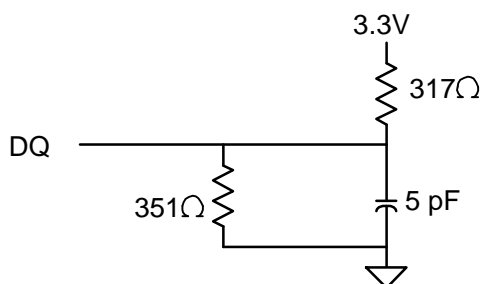

Fig.2 OUTPUT LOAD EQUIVALENT
6. Output loading is specified with $C_L = 5 \text{ pF}$ as in Fig. 2.